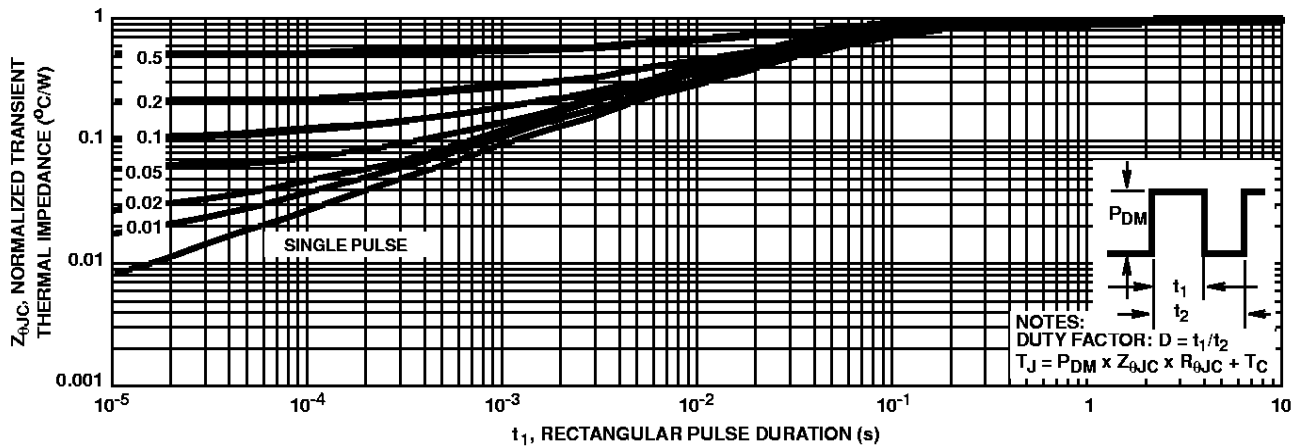

FIGURE 3. NORMALIZED MAXIMUM TRANSIENT THERMAL IMPEDANCE
3. Repetitive rating: Pulse width limited by maximum junction temperature. See Transient Thermal Impedance curve (Figure 3).